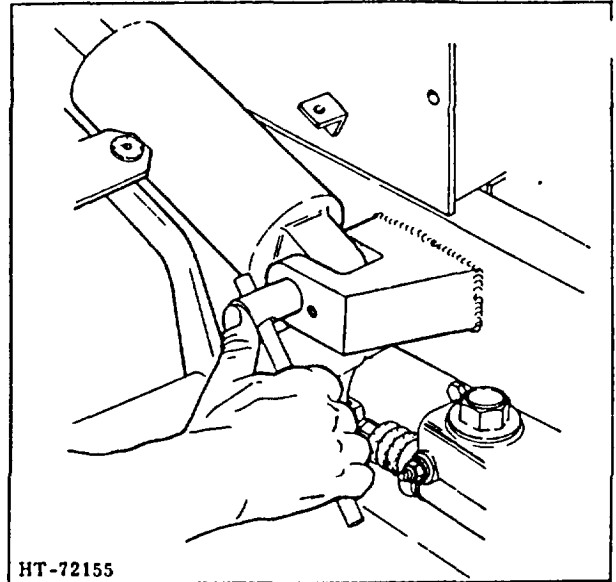

Figure 7. Tilt Cylinder Pin Removal
2. Relief Valve Adjustment Whenever the control valve or hydraulic pump has been repaired or replaced, check the relief valve and adjust to open at specified pressure. Check and adjust the relief valve (Fig 7) located in the lift section of the control valve as follows:
6. Insert drift pin (Figure 7) in hole provided for it in tilt cylinder mounting pin, and remove pin. The tilt cylinder may then be lifted from location.